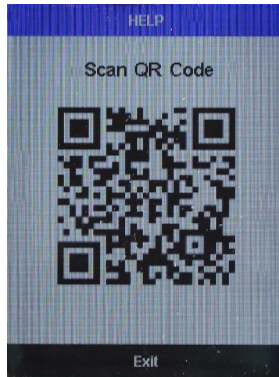

Figure 14.
4. Allow 5–10 seconds for the message in the top-right corner of the display change from **Starting BTLE...** to **BTLE Started** (Figure 14).